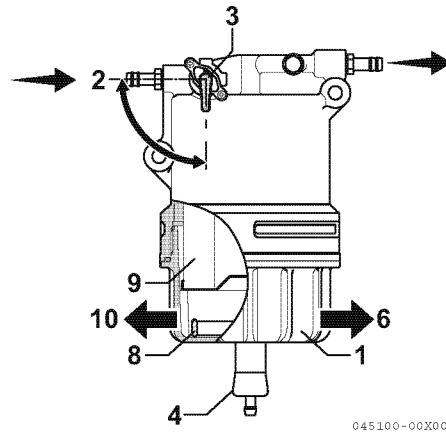

Figure 5-14
1. Position an approved container under the cup (**Figure 5-14, (1)**) of the fuel filter/water separator to collect the contaminants.
2. Close (**Figure 5-14, (2)**) the fuel cock (**Figure 5-14, (3)**).
3. Loosen the drain cock (**Figure 5-14, (4)**) and drain the contaminants. See *Drain fuel filter/water separator on page 5-10*.
4. Turn the retaining ring to the left (**Figure 5-14, (10)**) and remove the cup. If equipped, disconnect the sensor wire from the cup before removing the cup.
6. Remove the float ring (**Figure 5-14, (8)**) from the cup. Pour the contaminants into the container and dispose of it properly.
11. Install the cup to the bracket by tightening the retaining ring to the right (**Figure 5-14, (6)**) to a torque of 27 - 33 N·m (2.8 - 3.4 kgf·m).
13. Open the fuel cock (Figure 5-14, (3)).